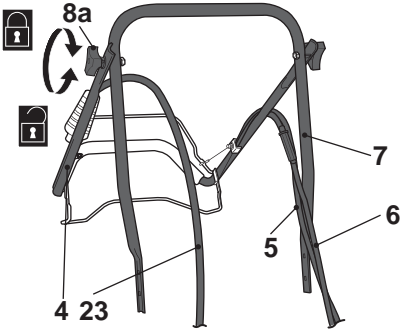
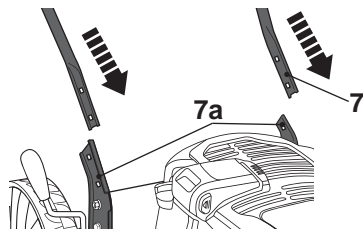

Fig. 1
Fig. 2
- Remove the protection covers from the lower handle bar (7).
- Ensure that the fixing knobs (8a) are loosen and unfold the upper (4) and lower handle bar (7) (Fig. 1).
- Make sure the wires (5, 6) and electric cord (23) run on the upper side of the handle bars (4, 7).
- Align the lower handle bar (7) with the handle supports (7a). Make sure the mounting holes in the lower handle bar are aligned with those in the supports (Fig. 2).